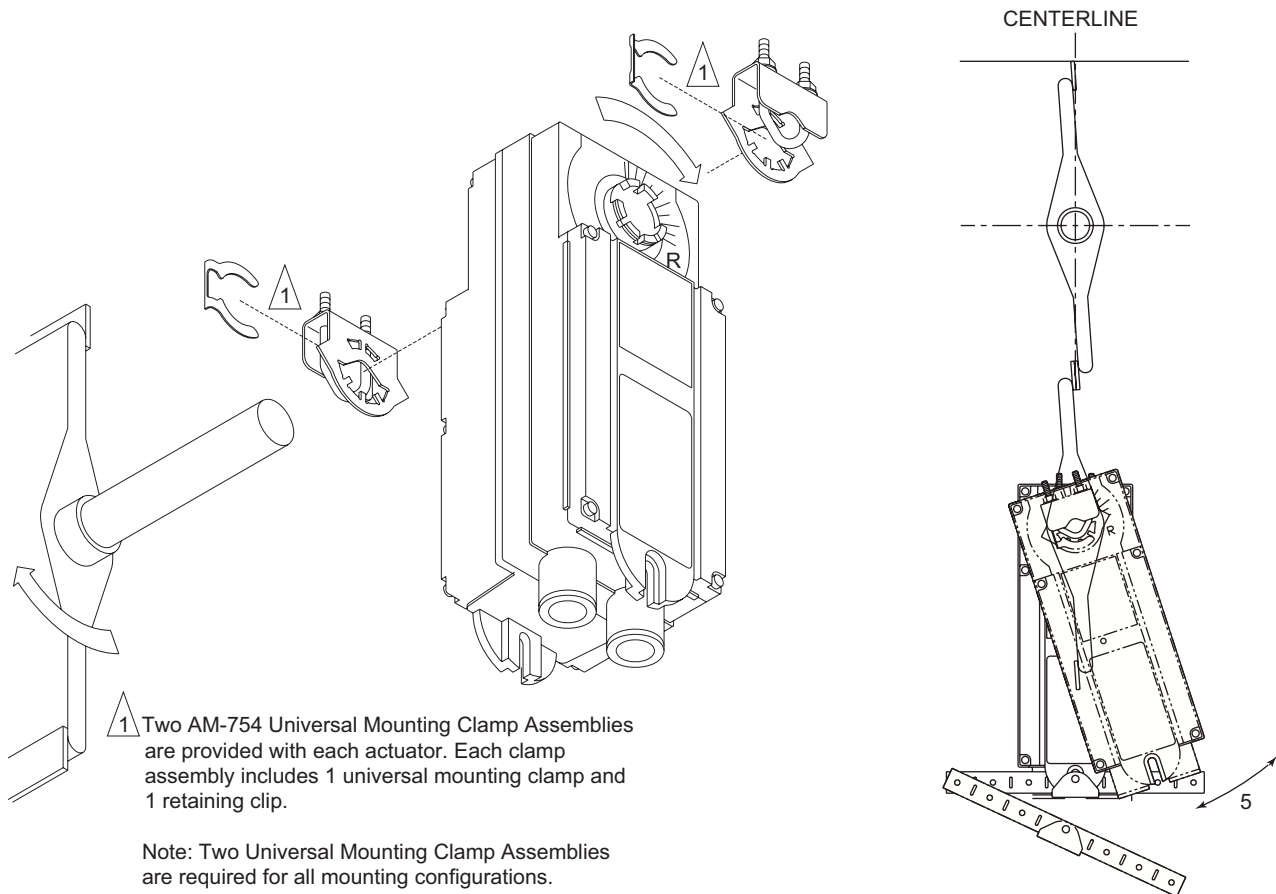

Figure-6 Long Damper Shaft Installation and Actuator Parts Identification.
- If the damper shaft rotates clockwise to the closed position, mount the actuator with the side marked "R" facing the installer. See Figure-6.
7. Pivot the anti-rotation bracket away from the actuator. See Figure-6.
8. Loosen the universal mounting clamps, making sure not to move the damper shaft. Rotate the actuator approximately 5° in the direction which would open the damper. See Figure-6.
10. Manually rotate the actuator toward the full-closed position to apply pressure to the damper seals. See Figure-6.
11. Pivot the anti-rotation bracket into place and secure the other side of the bracket onto the mounting surface using the other screw provided with the actuator. See Figure-6.
12. Verify that the damper is in its full-closed position and actuator at 90° (perpendicular) to the damper shaft. See Figure-6.
9. Attach one side of the anti-rotation bracket to the mounting surface with one of the screws provided. Leave the screw loose so that the bracket can be rotated. See Figure-6.
10. Pivot the anti-rotation bracket away from the actuator. See Figure-6.
11. Loosen the universal mounting clamps, making sure not to move the damper shaft. Rotate the actuator approximately 5° in the direction which would open the damper. See Figure-6.
13. Manually rotate the actuator toward the full-closed position to apply pressure to the damper seals. See Figure-6.
14. Pivot the anti-rotation bracket into place and secure the other side of the bracket onto the mounting surface using the other screw provided with the actuator. See Figure-6.
15. Verify that the damper is in its full-closed position and actuator at 90° (perpendicular) to the damper shaft. See Figure-6.